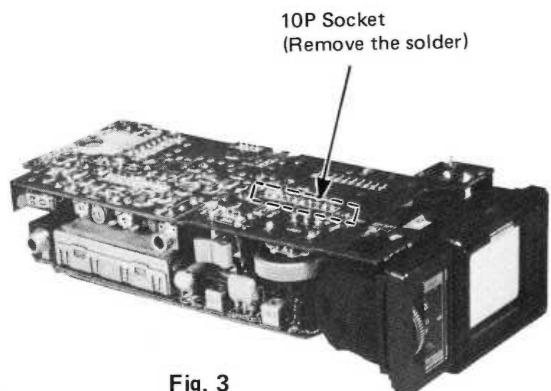

Fig. 3
3. Remove the 10P socket as shown in Fig. 3.